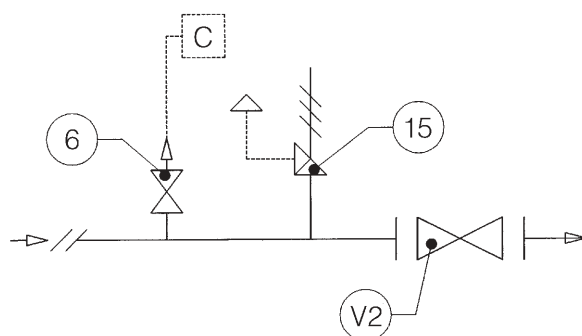

Fig. 5
3.1.1 DIRECT INSTALLATION IN THE LINE (FIG. 5)